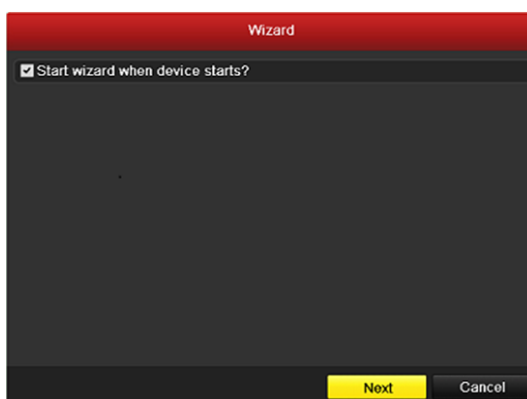

Figure 2. 4 Start Wizard Interface
3. Click **Next** button on the Wizard window to enter the **Login** window, as shown in Figure 2. 5.